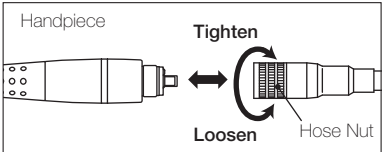

Fig. 2
- 1) Insert the handpiece correctly into the hose connector and tighten the hose nut. (Fig. 2)
- Loosen the Hose Nut and and remove from the Hose. (Fig. 2)